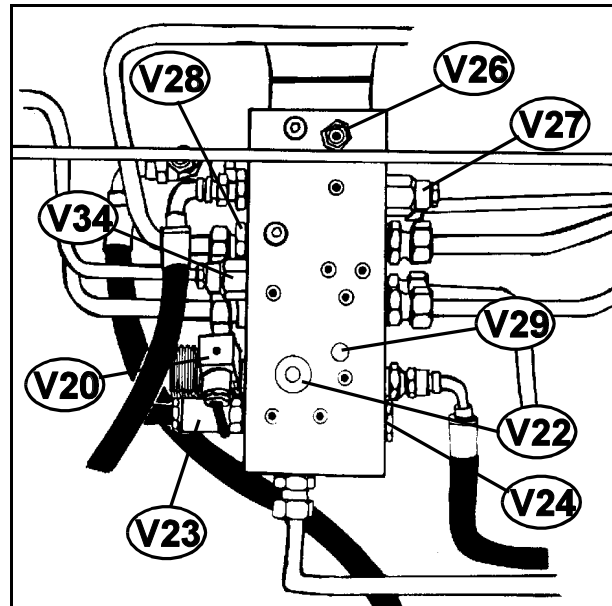

Fig. 14-7
14.5 COLLECTING BLOCK (See fig. 14-7.)